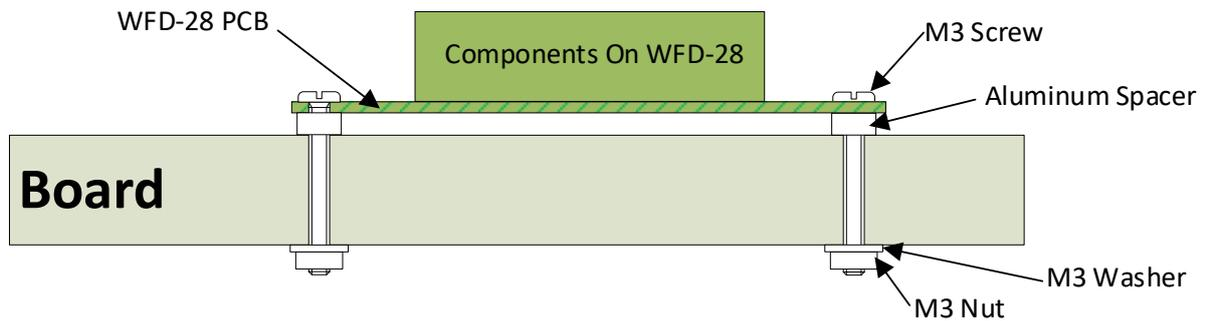

Figure 101 Mounting the WFD-2X on a board
- (1) Use the mounting kit to attach the module to your baseboard or fascia, as in Figure 101, either on top or underneath in such a way as to avoid anything being placed on it or against it.
- (2) Mount the module inside a suitable plastic box with holes cut to accommodate the wires to track. **Do not use a metal box** as this will cause degradation of the Wi-Fi performance.